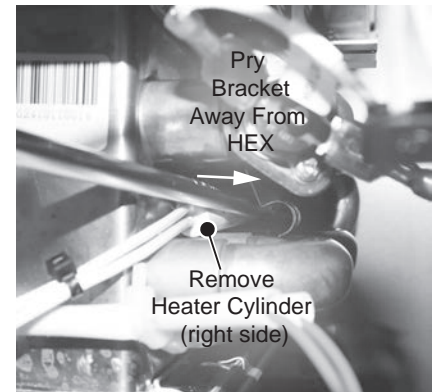

Figure 20 - Heater Cylinder replacement
- 11 Use a Phillips screwdriver to gently pry the flexible brackets away from the HEX to allow space for the heater cylinders and wires to slide out. Remove the two heater cylinders. See Figure 20.